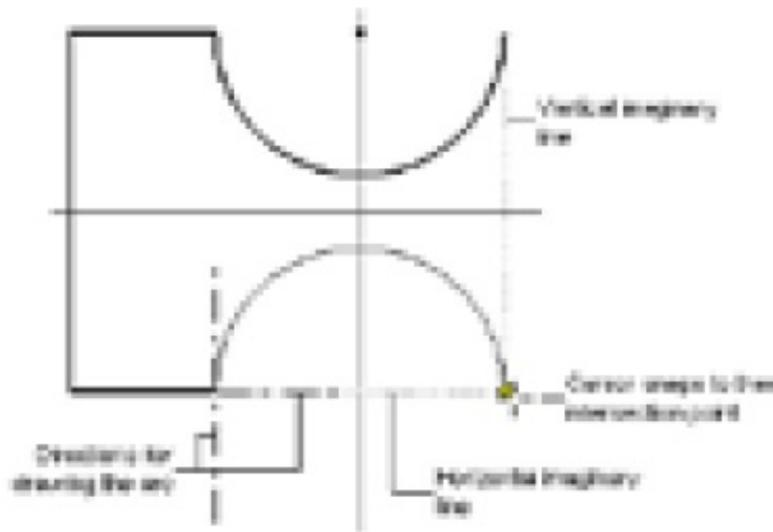

Figure 2-73 Use of the temporary tracking option to draw an arc
12. Move the cursor downward, you will notice a point where both the vertical and horizontal imaginary lines intersect each other, see Figure 2-73. This point is the endpoint of the lower arc. The cursor automatically snaps to that point. Do not release the left mouse button until the entire process is completed.
select the endpoint of the line after you get the intersection point of the imaginary lines, refer to Figure 2-73.